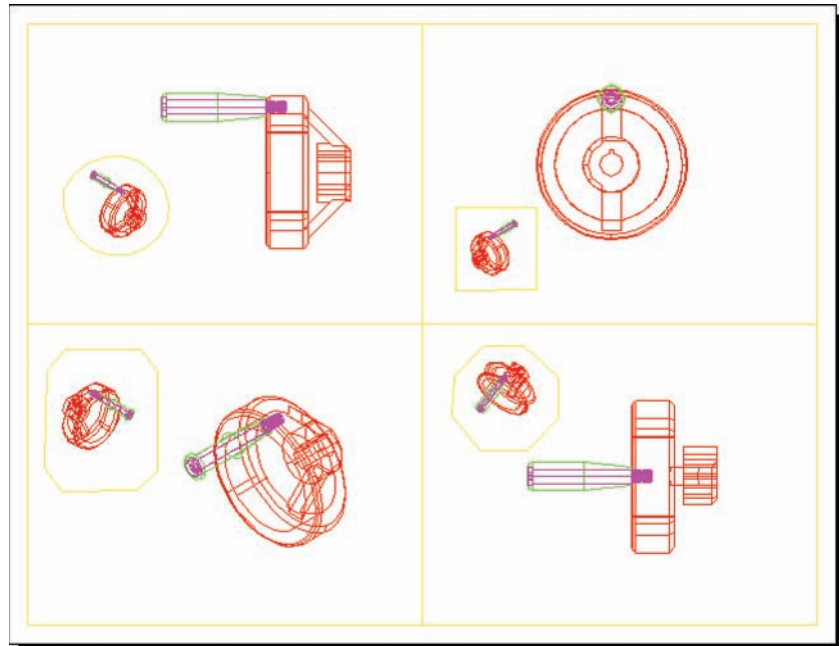

Fig. 19.11 Polyagonal viewports – plot preview
Polygonal viewports (Fig. 19.11)
9. Repeat in each of the viewports with different shapes of polygonal viewport outlines (Fig. 19.11).